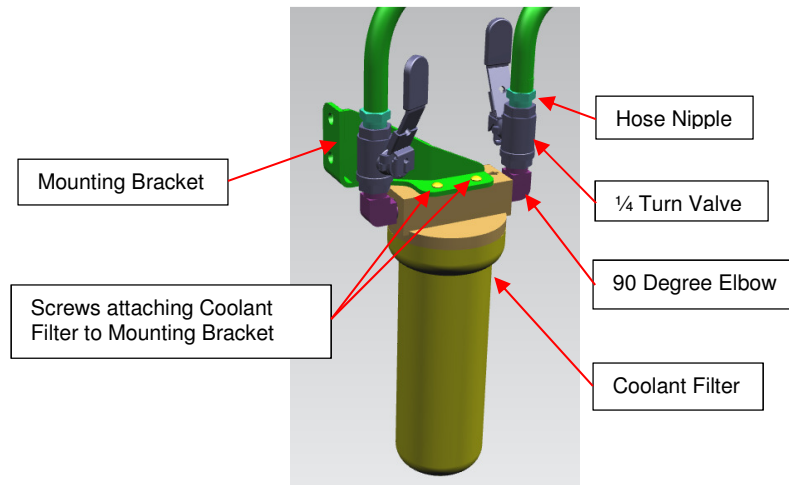

Figure 3: Coolant Filter With ¼ Turn Valves.
10. On each elbow fitting, install a new ¼ turn valve NF P/N 766874 using Loctite 567 thread sealant NF P/N 8110442 on the threads. Install the fittings finger tight and apply two full turns past finger tight. Orient the valve handles as seen in Figure 3.